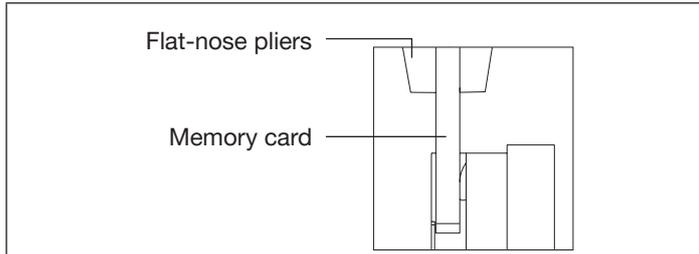

Fig. 28: Vertical insertion of the memory card
- After overcoming the force of the spring, insert the memory card vertically. See Fig. 28.